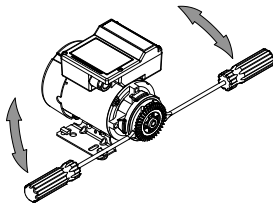

Fig. 5
- Remove screws (A) and lift complete assembly away and position next to pump ensuring no stress is placed on the cables.
- Remove 4 screws (item 1) and gently prise off the pump body – note ‘O’-ring (item 6) between pump body and mounting plate.
- Slide impeller away from shaft and remove woodruff key (item 7) – (see note: Fig. 5).
- Remove circlip (item 2) and mechanical seal parts. (items 3 & 4).
- Remove Counterface (item 5) from its mounting plate location.
Difficulties may be experienced in the removal of the impeller. To overcome this, two screwdrivers can be used to gently lever the impeller away from the shaft as detailed (Fig. 5), ensuring equal pressure is applied to each side of the component to avoid bending the shaft.